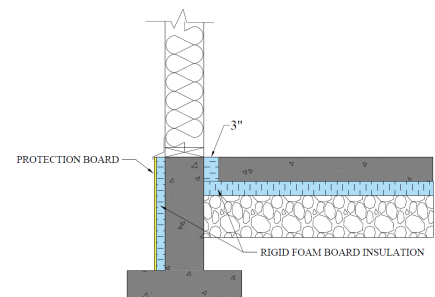

Figure 3
- Additional layer of foam board insulation shall be added to the exterior side of foundation wall in addition to 3" interior thermal break (*Figure 3*).